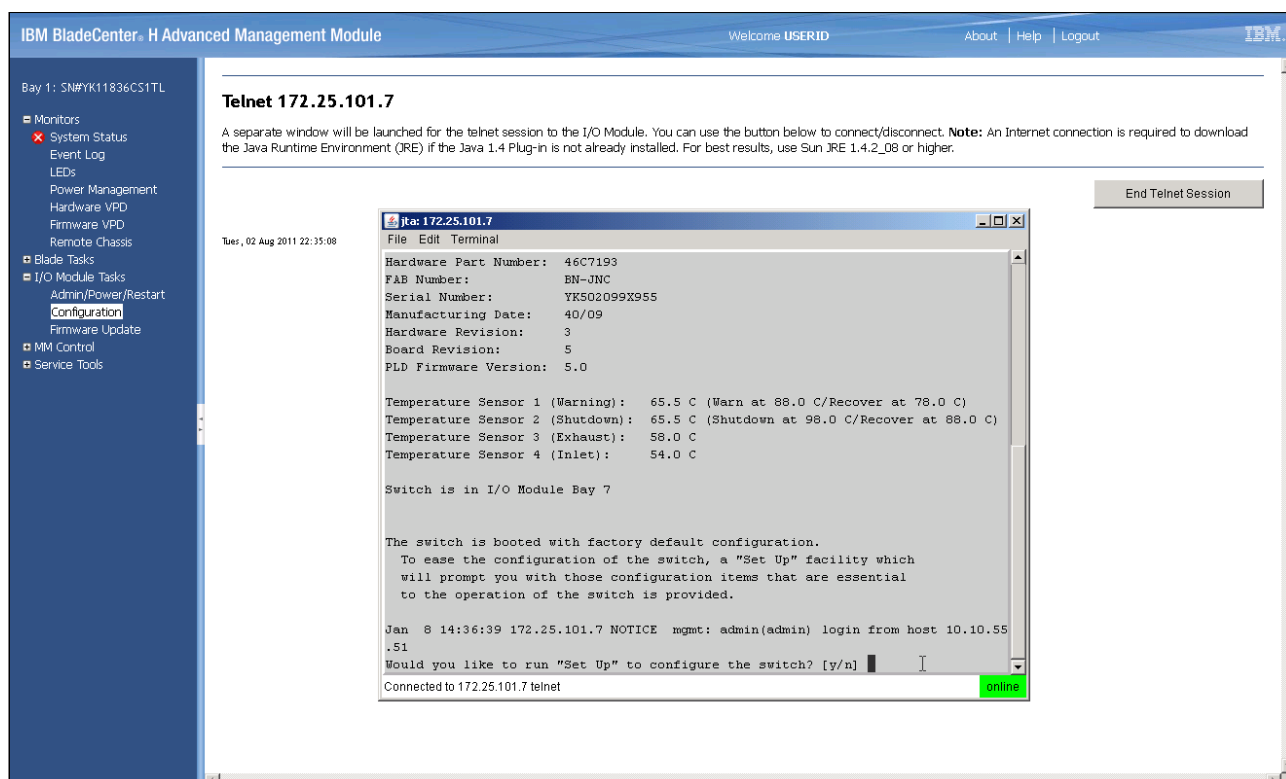

Figure 4-10 Telnet session to the switch from the AMM
- ▶ Start a Telnet/web session (to manage the switch by using IBM Networking OS), which is shown in Figure 4-10 on page 146.
The telnet session is shown in Figure 4-10.